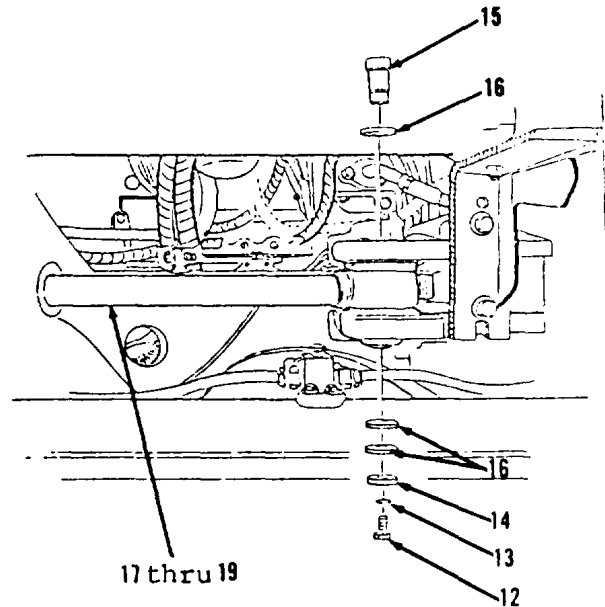

Figure 10-137.
7. Using brass drift and hammer, remove pin (10).
8. Separate items 12 thru 19 as an assembly from frame mounting.
9. Remove three washers (11).
10. Remove bolt (12), lockwasher (13) and washer (14, Figure 10-137) from front, left side of rear frame.
11. Using suitable puller, remove pin (15).
12. Separate items 17 thru 19 as an assembly from rear frame mounting.
13. Remove three washers (16) and items 17 thru 19 as an assembly.